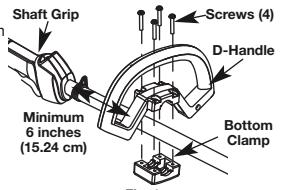

Fig. 1
- Place D-handle over the shaft housing and onto the bottom clamp (Fig. 1). Place it a minimum of 6 inches (15.24 cm) from the end of the shaft grip.